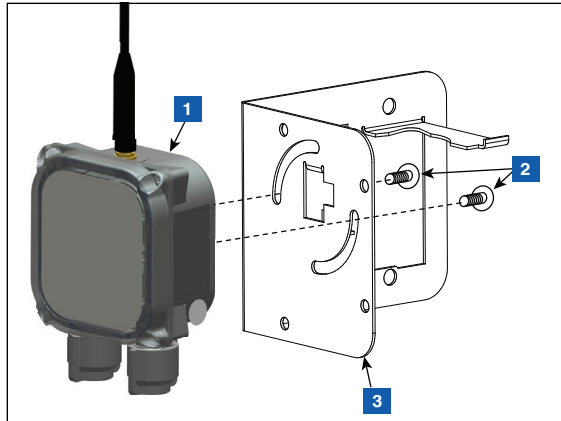

Figure 34. Attaching Transmitter To Support Bracket
3. Using two #10–32 x 12.7mm (½") taptite screws from the installation kit, attach the Transmitter to the support bracket that has the two circular slots (see Figure 34). Do not tighten screws at this time.
LEGEND FOR NUMBERED BOXES IN Figure 34